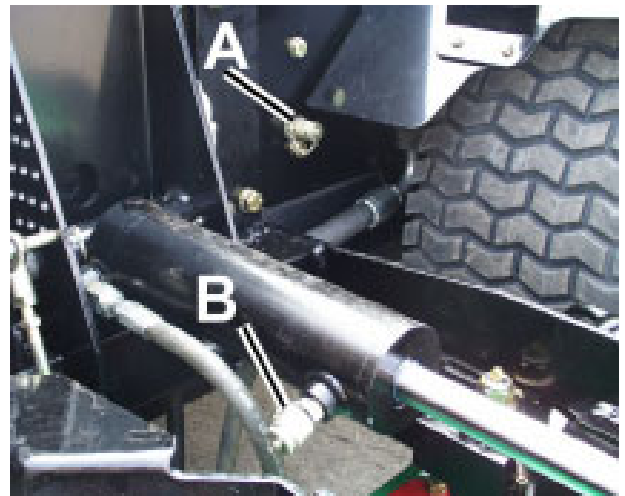

Fig.7
TEST PORTS (Fig.7,8,9):
1. Front Cutter Deck Pressure: 220 bar (3200 psi). (A(Fig.7)).
Lift Pressure : 63.5 bar (920 psi). (B(Fig.7)).